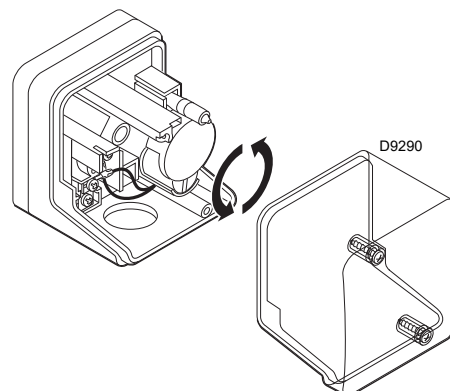

Fig. 51
- Adjust the minimum gas pressure switch (Fig. 51) to the start of the scale.
Adjust the minimum gas pressure switch (Fig. 51) after having adjusted the burner, the gas valves and the gas train stabiliser. With the burner operating at maximum output: